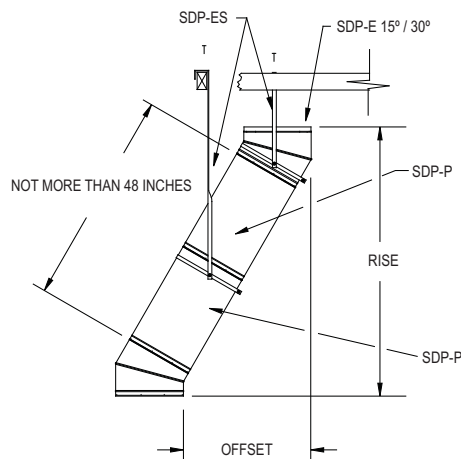

Figure 17
1. Attach Elbows: Attach Elbows to Chimney Sections or other Elbows by twisting clockwise until they lock firmly. Attach one Elbow to the Chimney Section below, and align it for the offset. If the needed direction of the Elbow is different than the fully locked position, the Elbow can be rotated to desired direction and can be secured to pipe section with a minimum of (4) sheet metal screws. Do not penetrate the inner wall. Refer to Table 3 to determine the required offset length and attach an appropriate length (or lengths) of Chimney Section(s) above the Elbow. Do not exceed the maximum lengths between the Elbows specified in **Table 3**. Attach the second Elbow above the Chimney Section to complete the offset. (**Figure 17**).